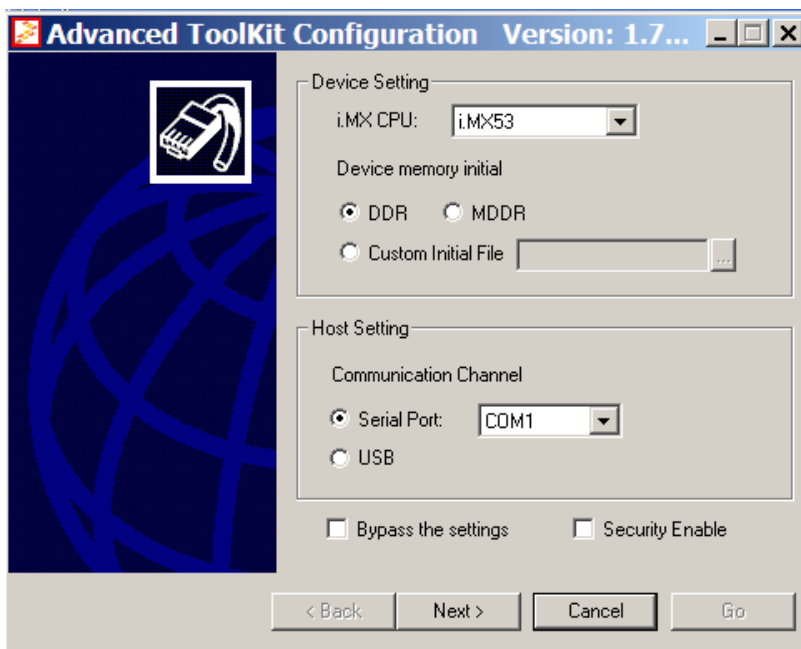

Figure 5-1 ATK configuration for i.MX53
2. Power on the board. Configure the ATK options as shown in Figure 5-1.